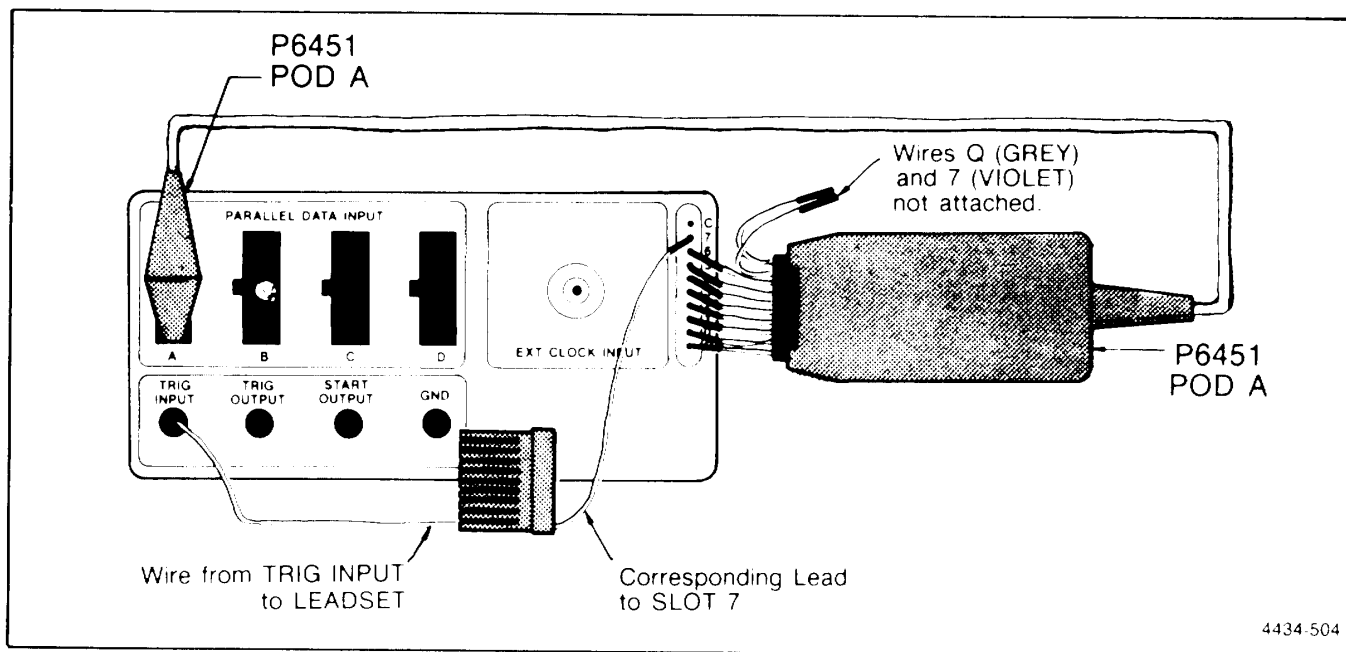

Figure 5-10. 318 External trigger check setup.
- a. Refer to Figure 5-10. Connect the data leads of the P6451 Parallel Data probe in Pod A to TEST OUTPUT as follows: